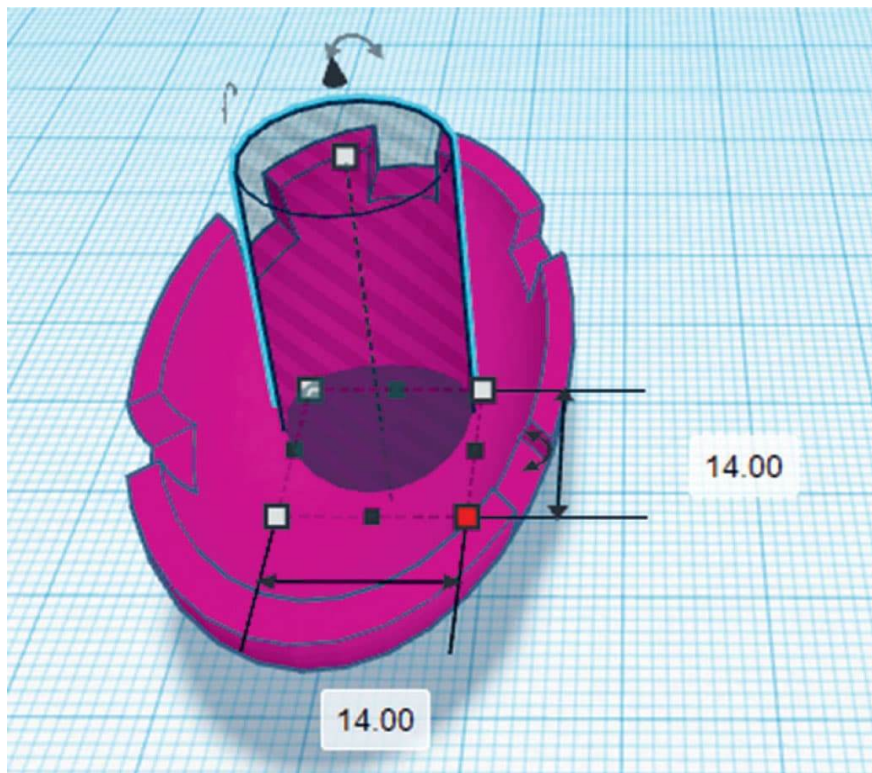

FIG. 6: Use a cylindrical hole to make the hole in the middle of the spoon.
6. Create a hole in the center of the spoon using a **Cylindrical Hole** tool (fig. 6).